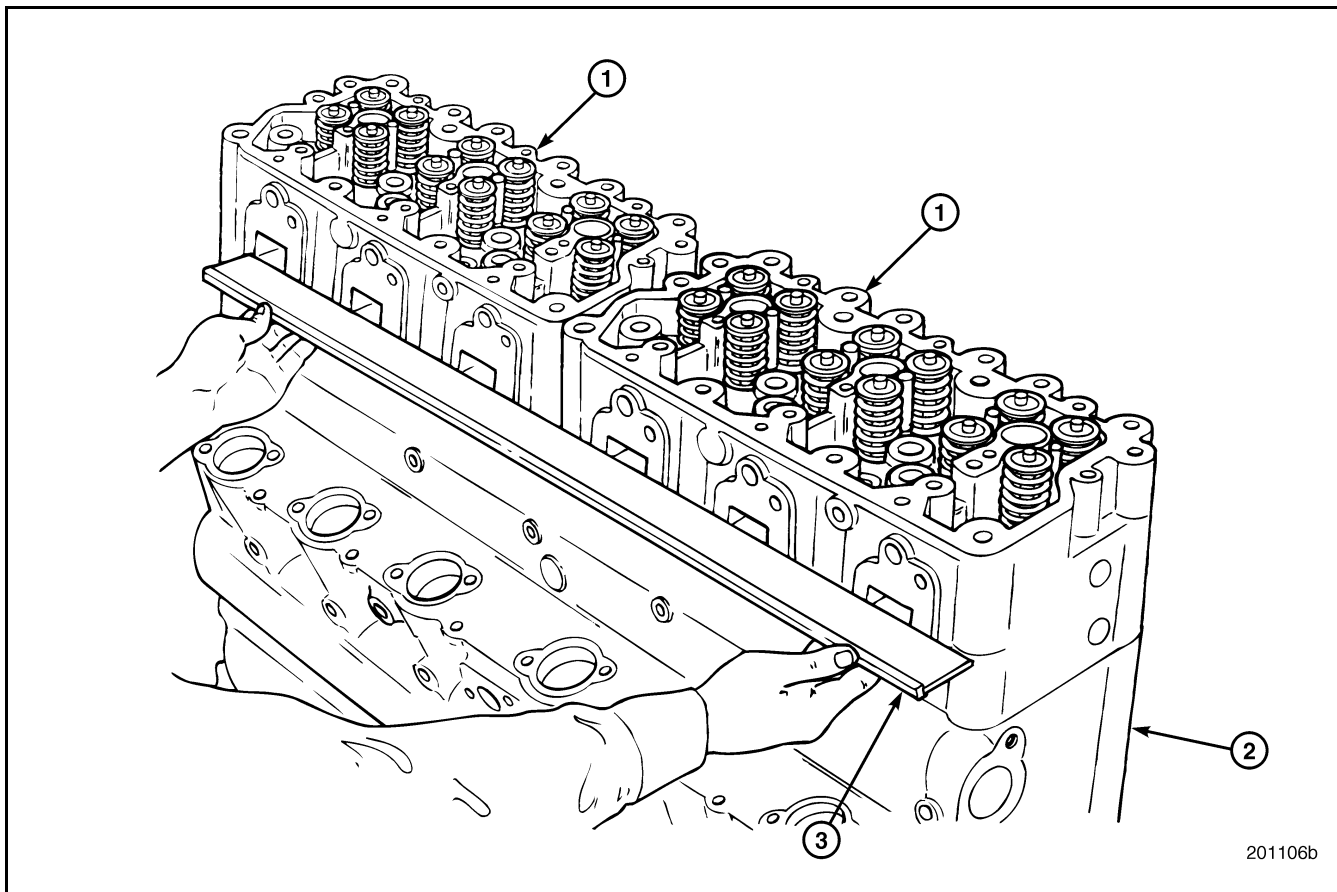

Figure 367 — Cylinder Head Alignment
6. Check the alignment of the cylinder heads by placing a straightedge against the exhaust manifold mounting surfaces (Figure 367). Using a feeler gauge, measure any gaps between the straightedge and manifold mounting surfaces. The heads should be in alignment within 0.005 inch (0.127 mm). If not, reposition the heads to achieve the specified alignment.